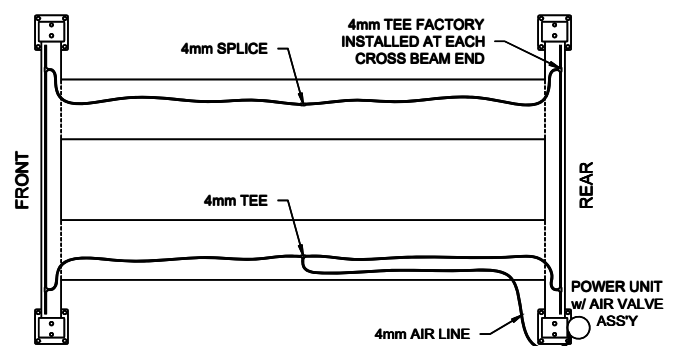

Fig 12 – Lock Release Air Line Routing
- 35) Install 4mm air line from air valve assembly thru opening in runway to Tee fitting. **Fig 12**.